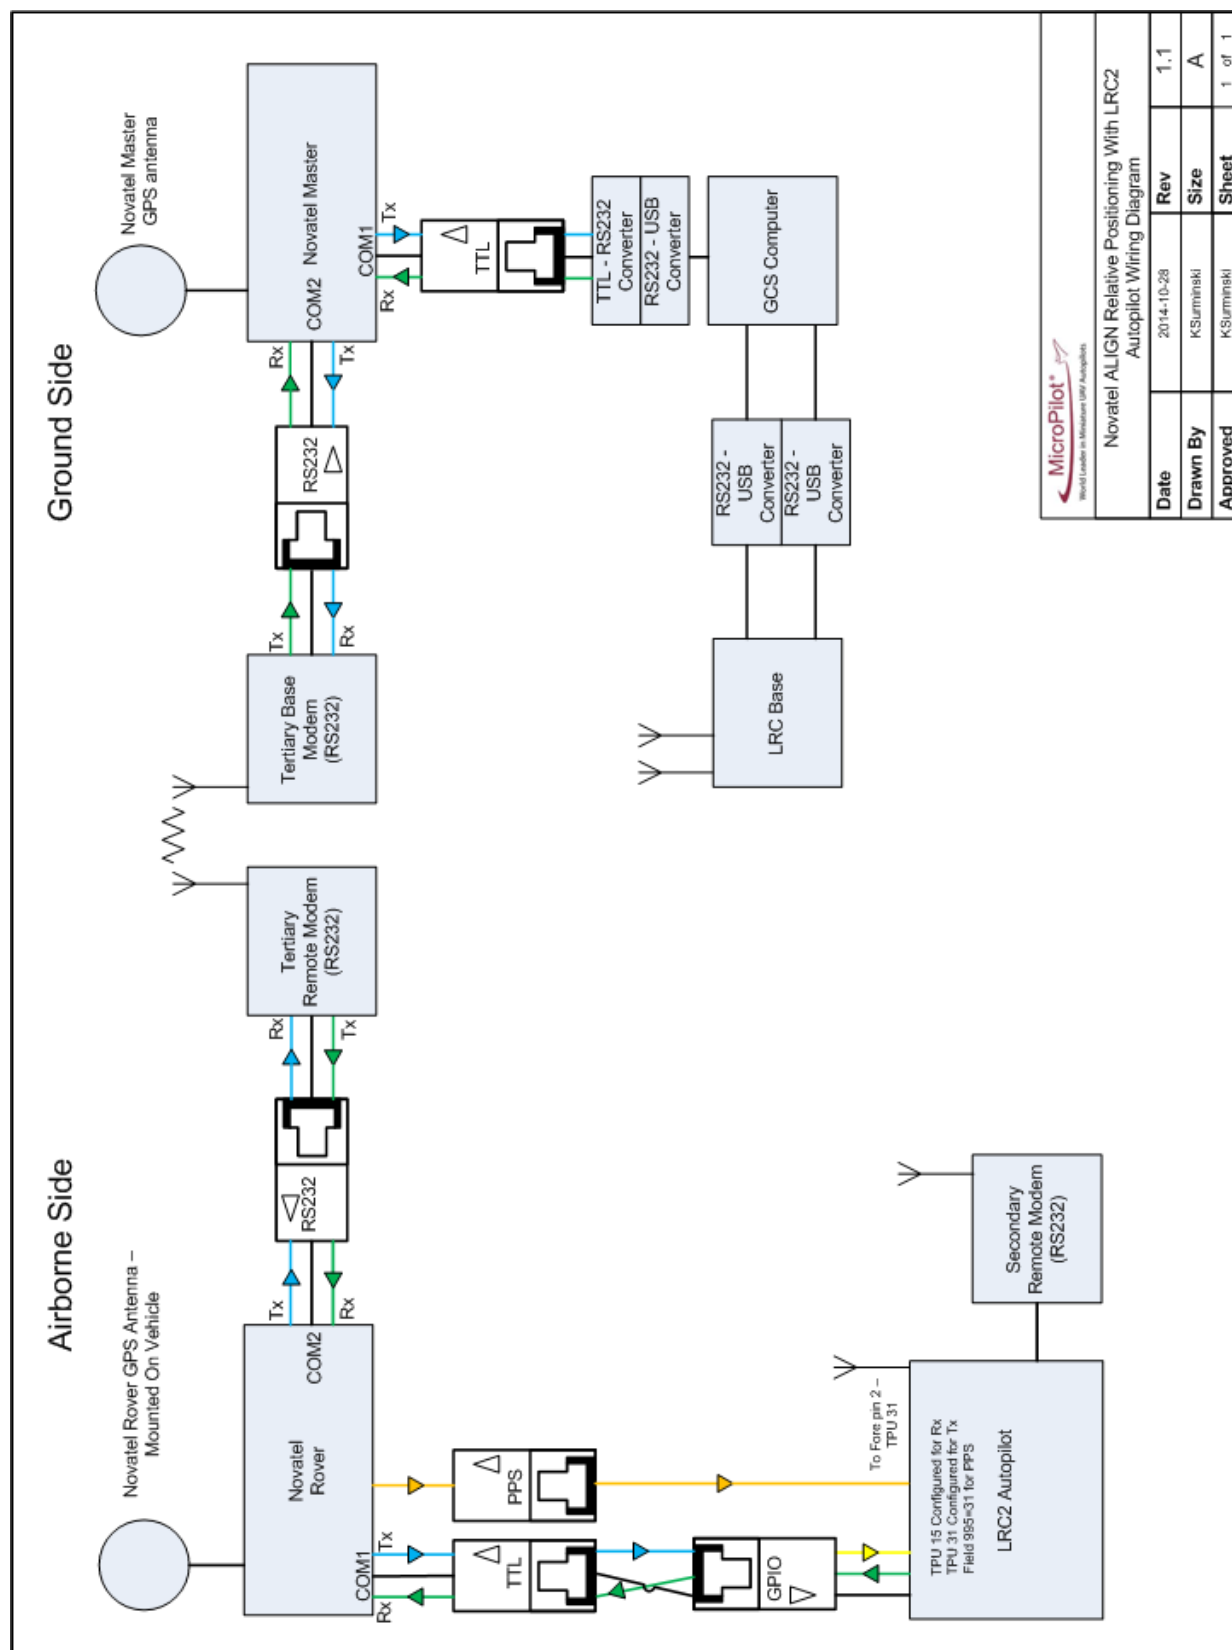

Figure 19 - Novatel ALIGN Relative Positioning with LRC2 Autopilot Wiring Diagram
- See *Figure 19 - NovAtel ALIGN Relative Positioning with LRC2 Autopilot Wiring Diagram*